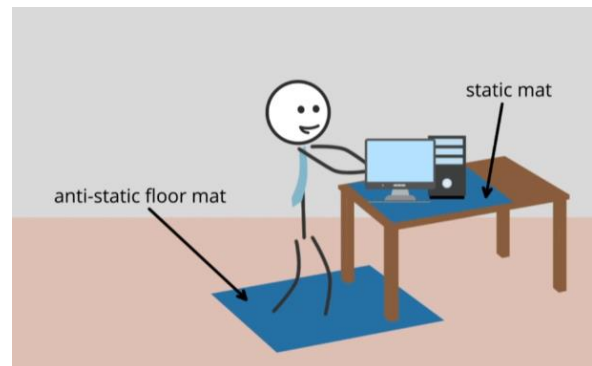

FIGURE 7: TESTOUT CORP. (2020, JANUARY 14). TESTOUT PC PRO (SECTION 2.1.3). RETRIEVED FROM [HTTP://WWW.TESTOUT.COM](http://www.testout.com)
1.3.4. Put a second Static Mat on the floor where you will stand (See Fig. 7). As long as you are standing on this Static Mat during the build, no static charge will build up and no static electricity will be caused.